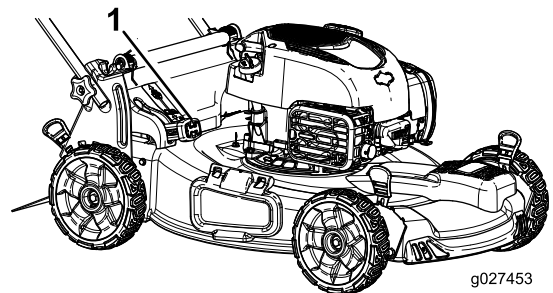

Figure 18
- For bagging the grass and leaf clippings, press the button on the bag-on-demand lever and move the lever forward until the button on the lever pops up (Figure 18).